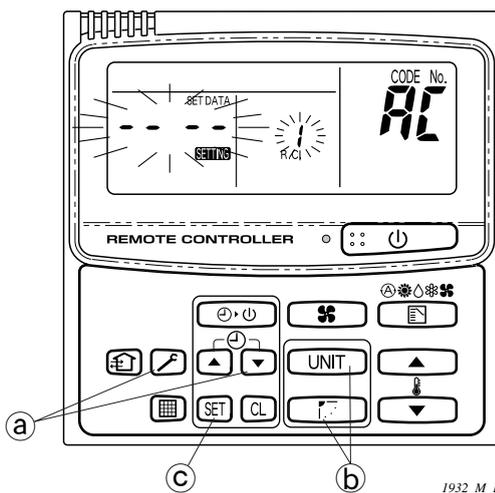

Fig. IV-8
**(F) Confirm and change the indoor unit address (Ref. Fig. IV-8, IV-9)**
- ① Press the  and  (  ) buttons at the same time for more than 4 seconds.
- ② Select the R.C. No. which you want to change with the  (up) or  (down) buttons.
- ③ Press the  button (to confirm the R.C. No.).